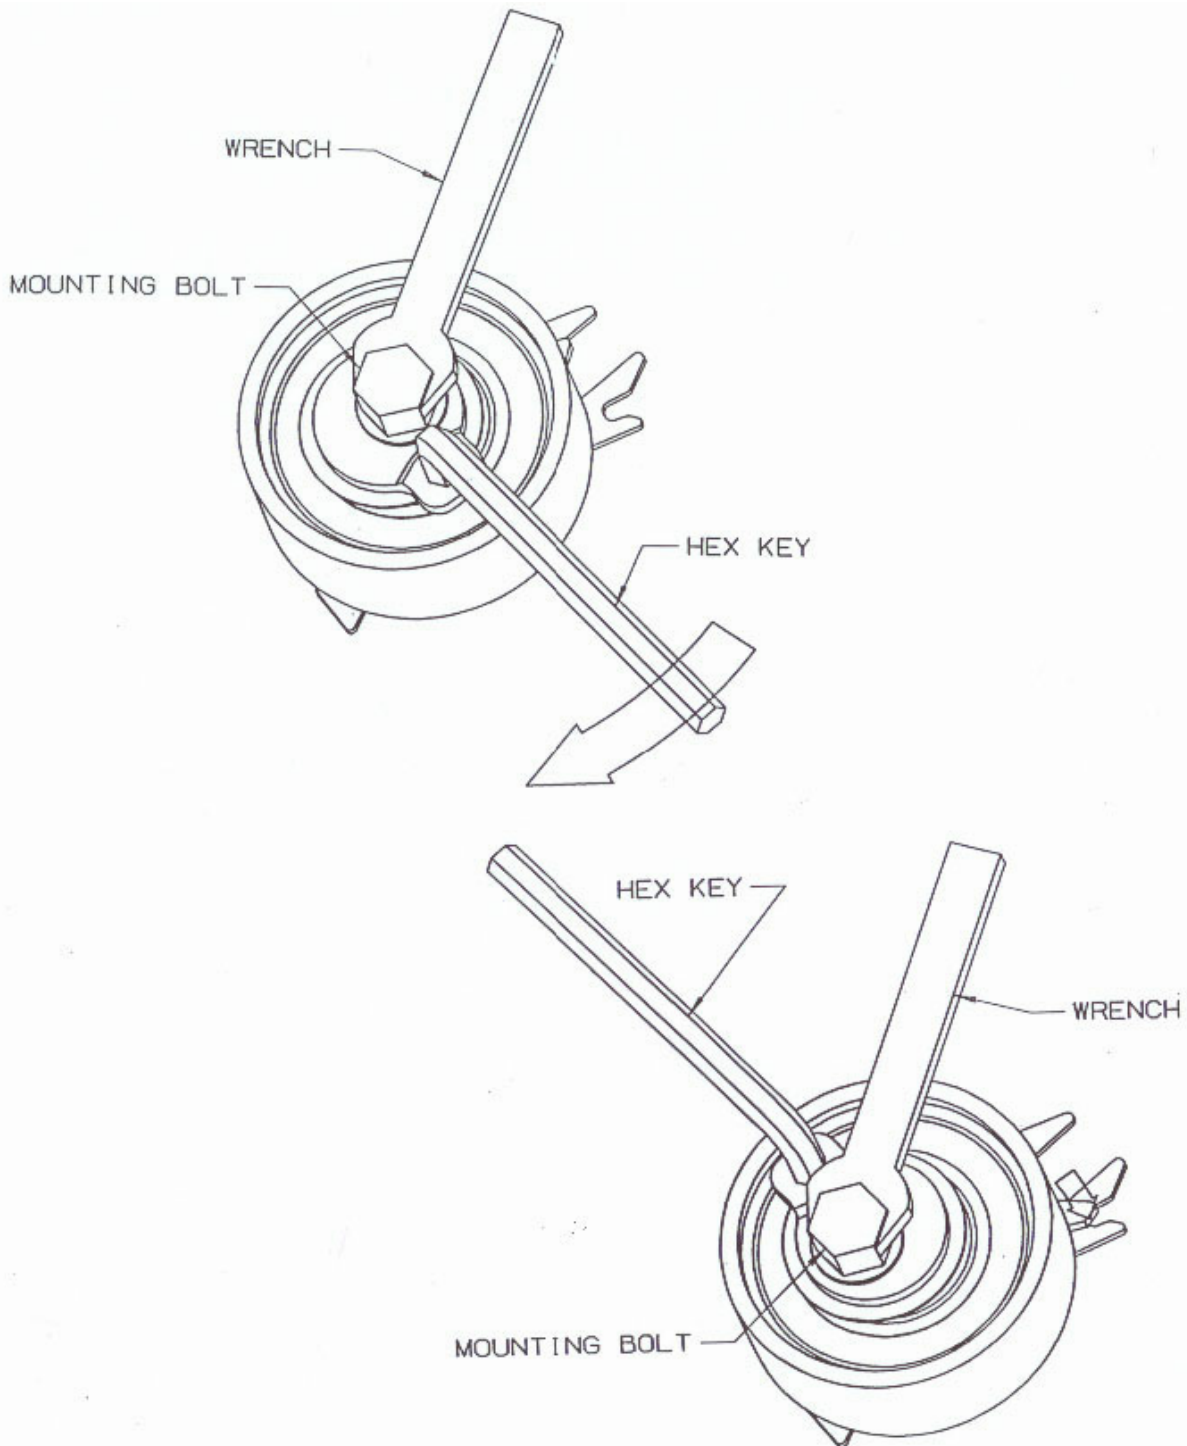

Figure 3: Adjustment of Tensioner with Hex Key
6. Rotate the Installation Shaft Washer **CLOCKWISE** with a Hex Key. Make sure to hold the mounting bolt with a Wrench in order to prevent it from turning when rotating the Installation Shaft Washer. The Tensioner assembly will move against the belt and the Arm will eventually start to move **CLOCKWISE** (**See Figure 3**).